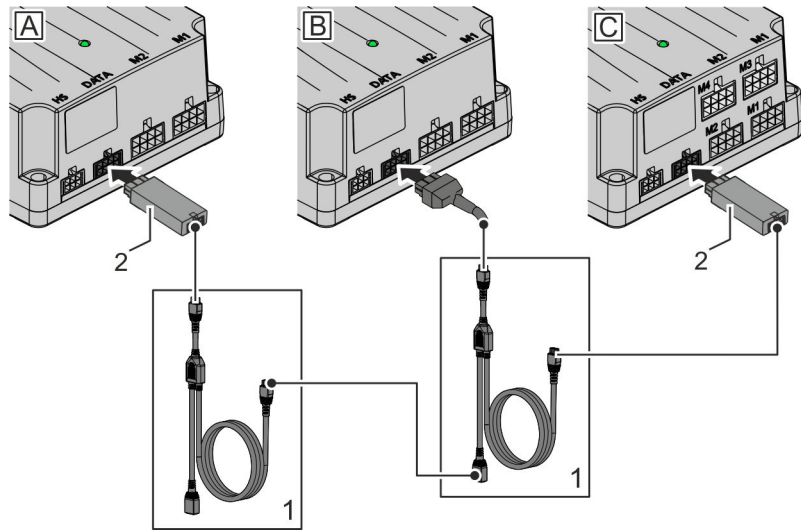

Fig. 27: Connecting control units
2. Connect the BUS cable (Fig. 27/1) and terminating resistors (Fig. 27/2) to the data interfaces on the control units (Fig. 27/A – C).
Make sure that the terminating resistor (Fig. 27/2) is connected directly to the DATA interface on the first (Fig. 27/A, master) and the last (Fig. 27/C, slave) slave control unit.